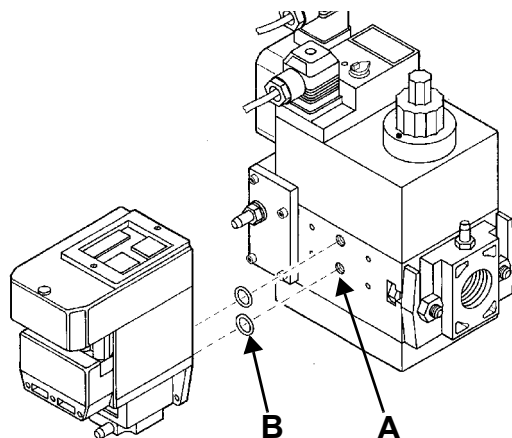
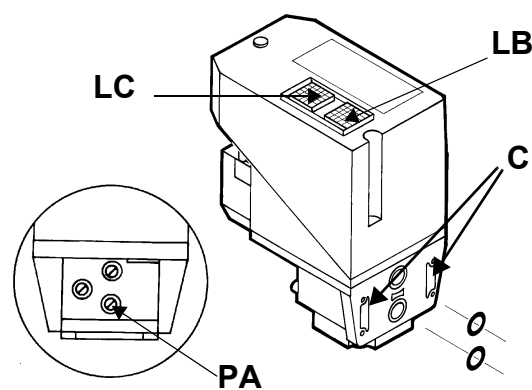

Fig. 8
Fig. 9
- 3 remove the Multibloc's screw plugs (Fig. 8-A);
- 4 insert sealing rings (10,5 x 2,25) into VPS 504 (Fig. 9-B, Fig. 8-B)
- 5 Torque screws 3, 4, 5, 6 (M4 x16) Fig. 8-C
When wishing to monitor the test, install a pressure gauge ranged to that of the pressure supply point **PA** (Fig. 9). If the test cycle is satisfactory, after a few seconds the consent light **LC** (yellow) comes on. In the opposite case the lockout light **LB** (red) comes on. To restart it is necessary to reset the appliance by pressing the illuminated pushbutton **LB**.